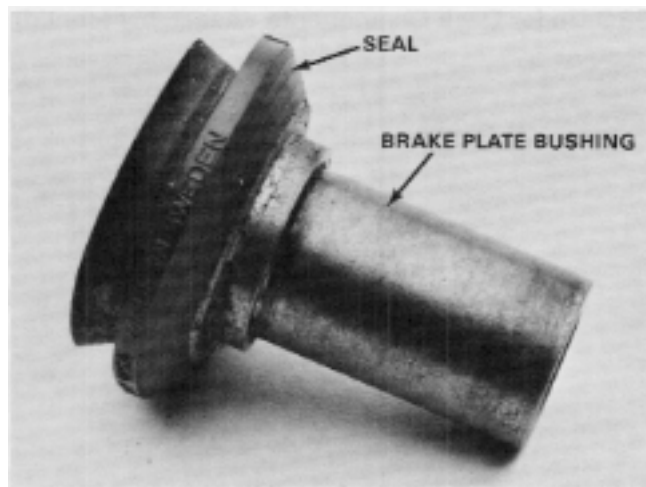

Figure 95
The brake drum bearing block, screen, blade spacer, blade and anti-scalp cup all rotate as an assembly. Their orientation can be clearly seen in the Figure 95. Note the vibration dampeners, two of which are used on the BBC brake drum. These dampeners help reduce the screeching sound when the brake is applied, due to the bell shaped brake drum.
1. Check to make sure that the brake plate seal is in good condition, then stretch onto the brake plate bushing. See Figure 95.